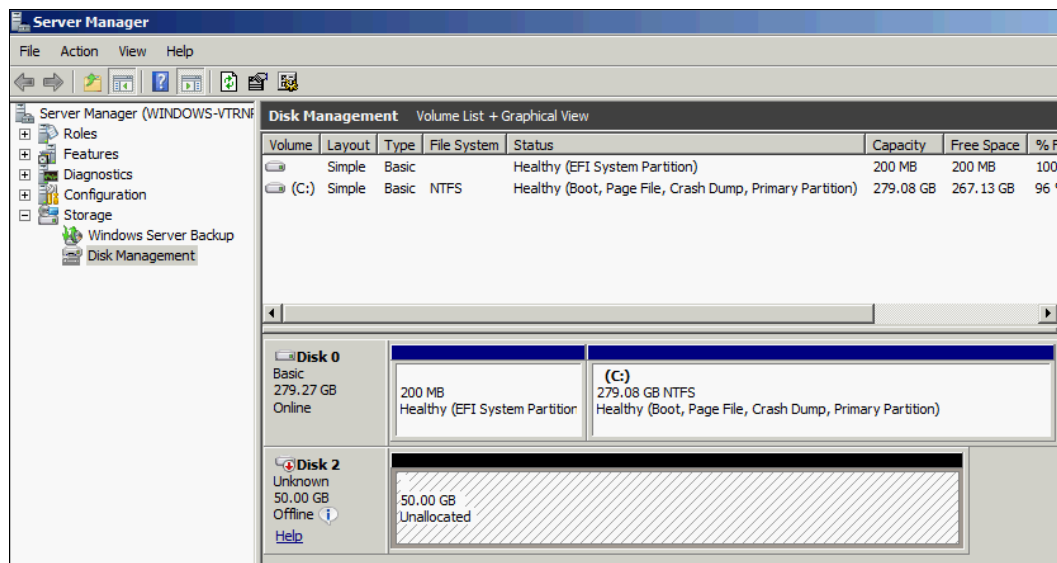

Figure 12-5 Windows Disk Management
3. The output provides information about the connected volumes. In our example, there is one disk connected, Disk 14 for the Windows host, and four paths to the disk are available (State = Open). Open the Windows Disk Management window (Figure 12-5) by clicking **Start** → **Run**, type diskmgmt.msc, and click **OK** or simply open it from Server Manager.